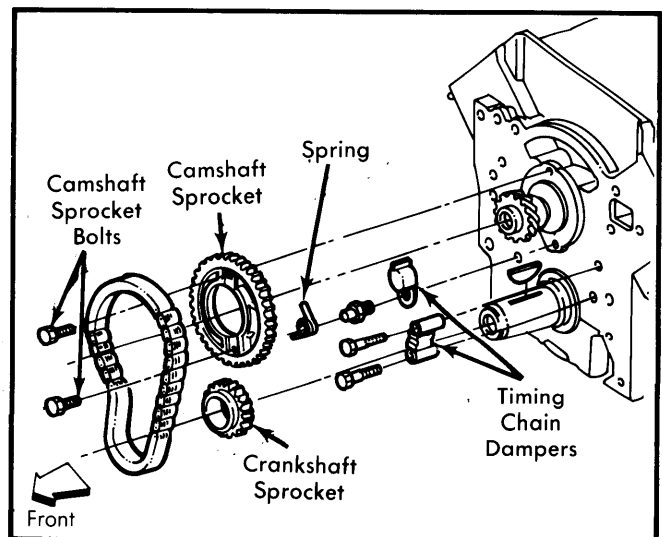

Fig. 10 Exploded View of Timing Chain Assembly
2) Install camshaft sprocket bolts and tighten. Install camshaft thrust spring, button and timing chain dampers. Install front cover and attaching bolts and tighten. See Fig. 10.